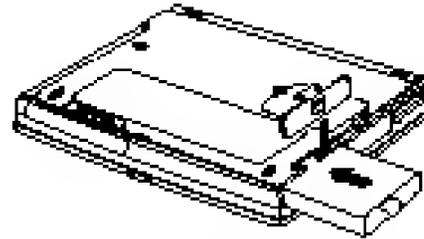

Figure 17. Installing the Battery
2. Slide the battery compartment cover straight up and off the computer (Figure 17).